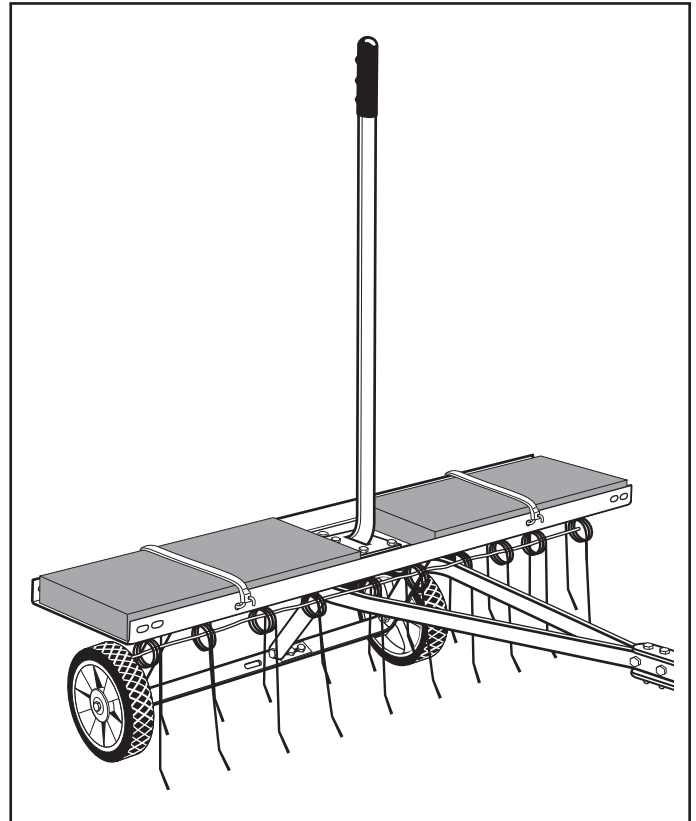

FIGURE 11
5. If the de-thatcher appears to be "jumping" during use, then extra weight should be added to the tine shield. In most conditions extra weight will be needed. Concrete patio blocks are recommended for weight because of their low profile; however any type of weight is suitable if it can be tied down to the shield. Secure weight by using suitable binding material such as rubber tie down straps or wire, fastening to the holes in the shield flange. See figure 11.